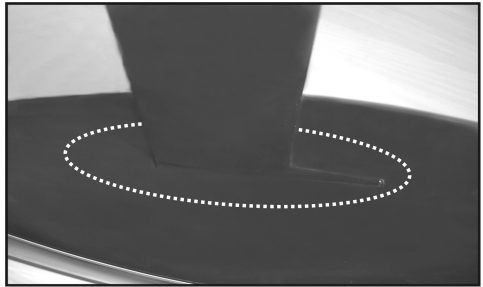

Figure 2b
- Install the keel with installed ballast to the boat body from below as shown in figure 2b.
To seal the boat body, the area where the keel is inserted must be sealed with silicone sealing mass (figure 2b, dashed line).